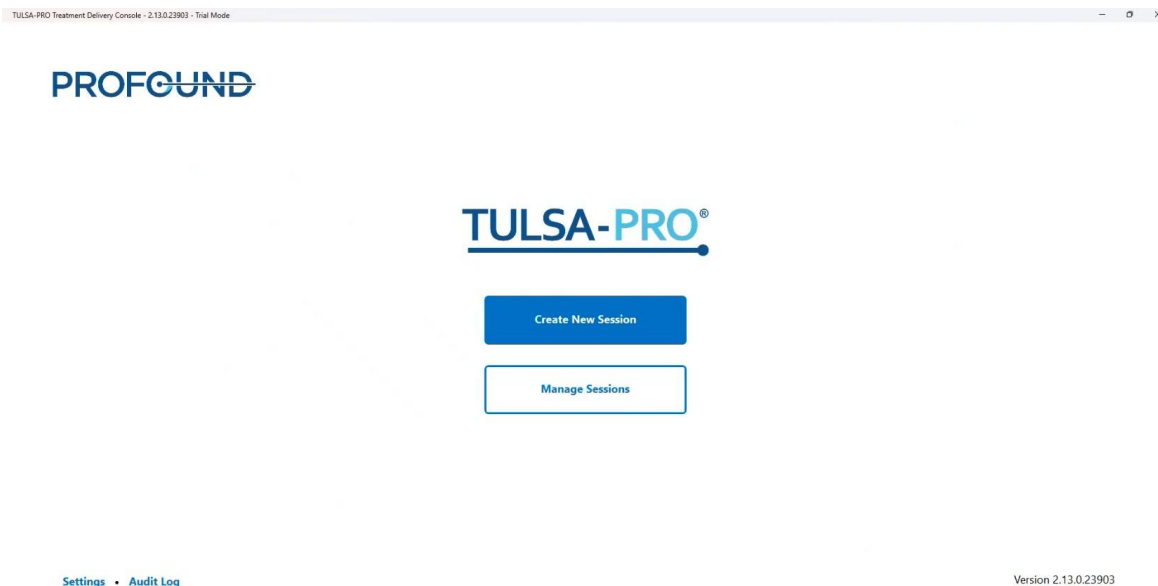

Figure 4: TULSA-PRO Start Screen
2. Launch the TDC software from the desktop. The **Start Screen** will appear (*Figure 4*).